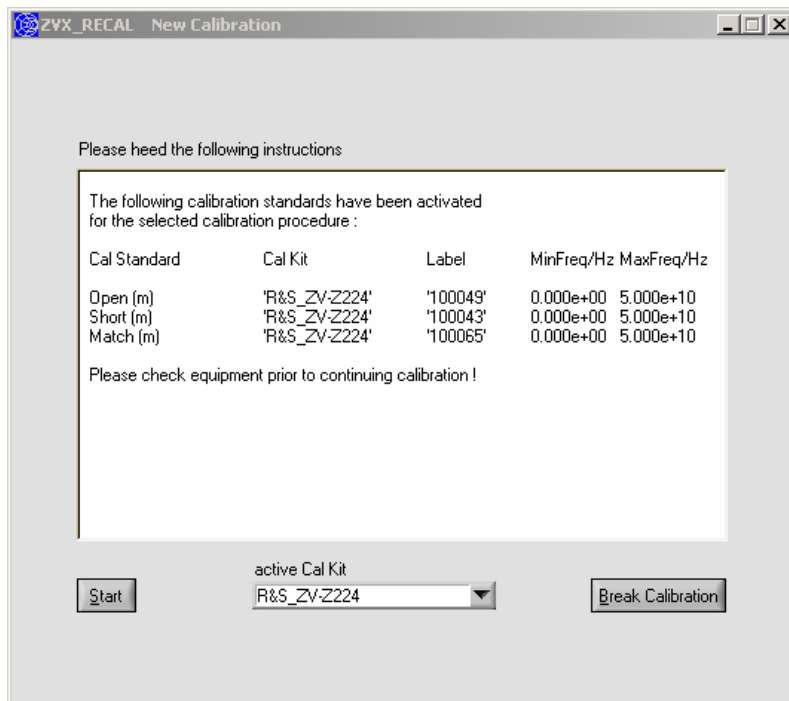

Fig. 6-4 Window for selection of the calibration kit
- Re 7: - In the **Calibration** drop-down list, select the **New: One Port OSM (User)** entry. A window like the one shown Fig. 6-4 will open